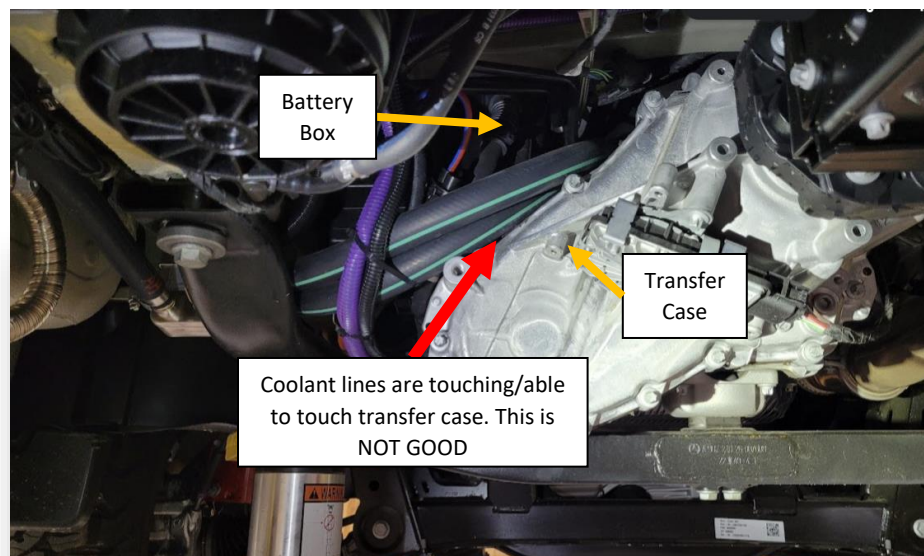

Figure 2
- c. Closely inspect the coolant lines at the rear inboard corner of the battery box next to the transfer case as shown in figure 2. Check whether the coolant lines are touching or able to touch the transfer case. Figure 2 shows an example of what is NOT GOOD. We do not want the coolant lines to be able to touch the transfer case at all. **Check for any signs of chafing, wear or damage to the coolant lines in this area and note what is found on the Coolant Line Securing Checklist at the end of this document.**